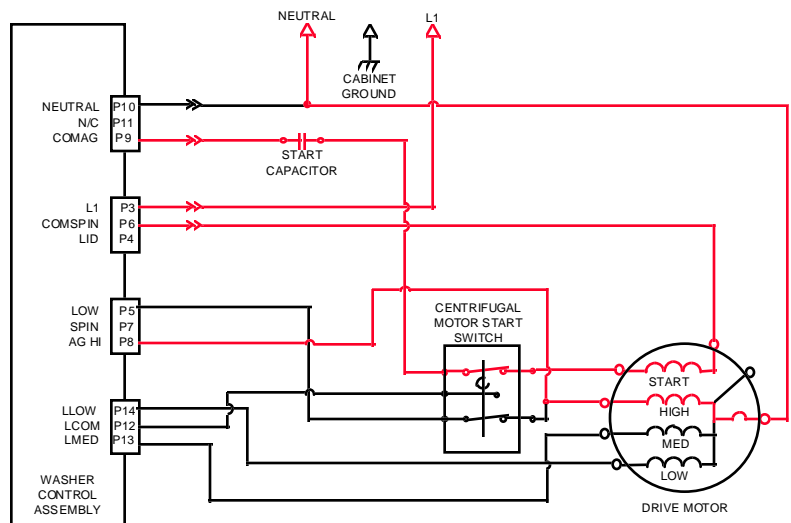

Figure 5
3. 120V is also applied directly to the drive motor through Pin P8 (AG HI), P13 (LMED) or P14 (LLOW) to control the drive motor agitate speed. (Fig. 5)